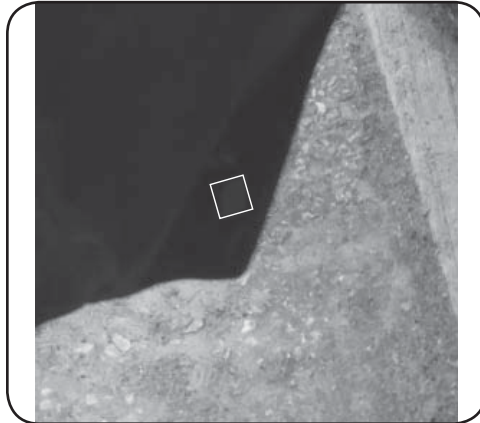

Figure 3-17
- A pair of magnets are on the bottom section of each side of the floor boards. These magnets help hold the lower portion of the snow cab against the floorboards. See Figure 3-17.